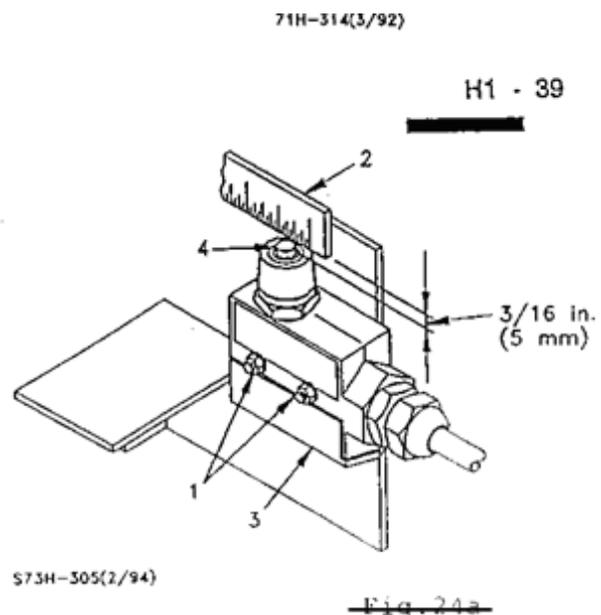

Figure 8-3d Montgomery KONE
C. Clean, Inspect and Test Access Cover Switches. Montgomery and Montgomery KONE (figure 8-3d below)